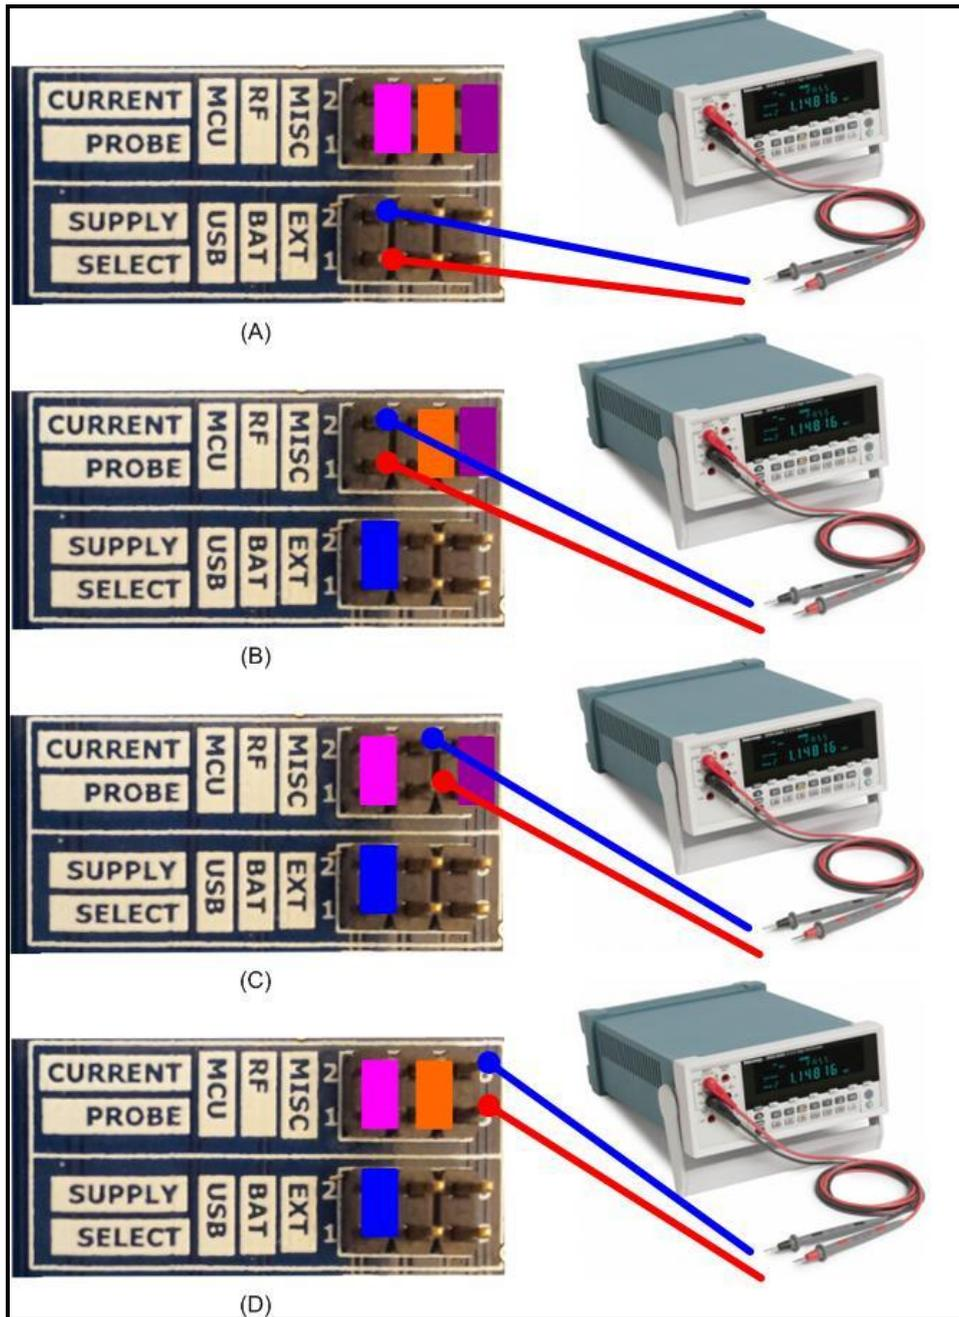

Figure 8: Current probing
- 1-2 in case of USB supply as shown in Figure 8 – (A).
The EMEDVK9x0xCM3 current consumption can be probed in the labelled microcontroller “Current Probe” area in place of the jumper position 1-2 as shown in Figure 8 – (B).
The EMRF9x0x current consumption can be probed in the labelled RF “Current Probe” area in place of the jumper position 3-4 as shown in Figure 8 – (C).
The remaining current consumption can be probed in the labelled MISC “Current Probe” area in place of the jumper position 5-6 as shown in Figure 8 – (D).